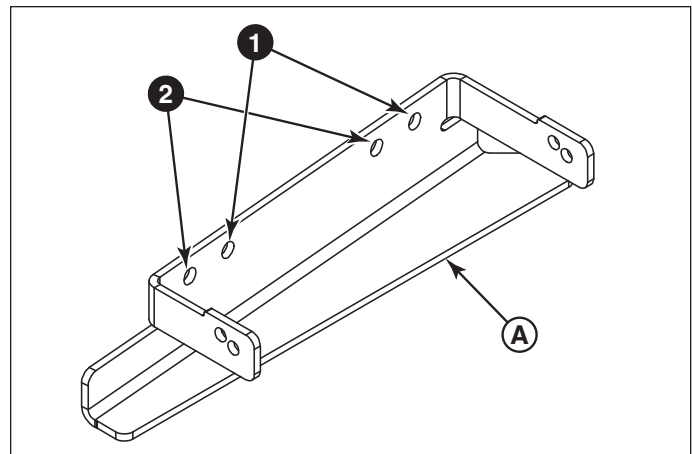

Figure 2. Determining the Correct Mount Bracket Holes to Use
1. The mount bracket (**A, Figure 2**) features two (2) sets of holes. For installing the bagger on a SW25 or FW25 with 36" mower deck use the holes labelled "1" in Figure 2. For all other models use the holes labelled "2" in Figure 2.